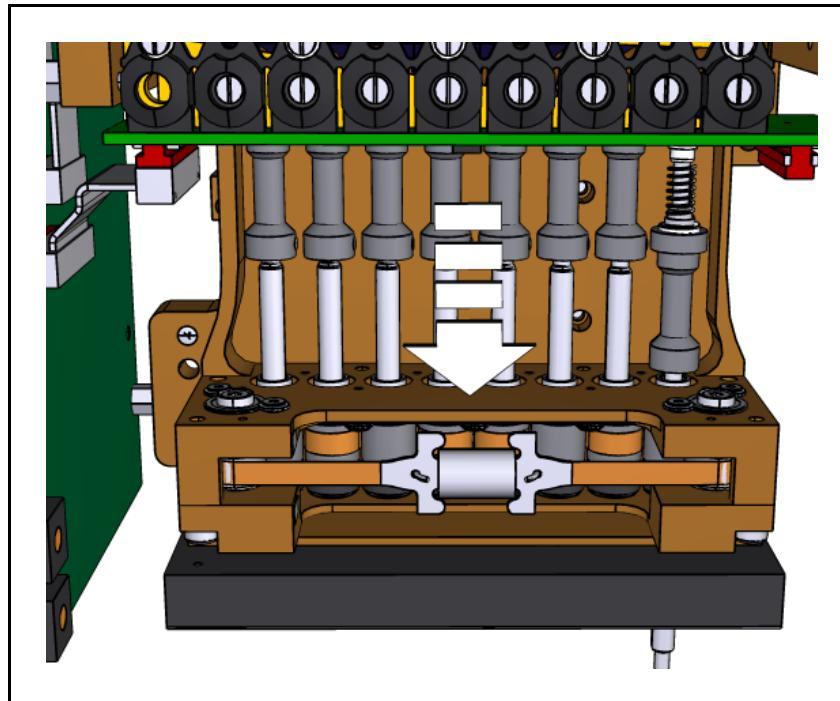

Figure 16-14. Lower HZ wagon.
2. Gently push the HZ wagon down against the reference background and hold the HZ wagon in this position while continuing with the next step, see Figure 16-14.